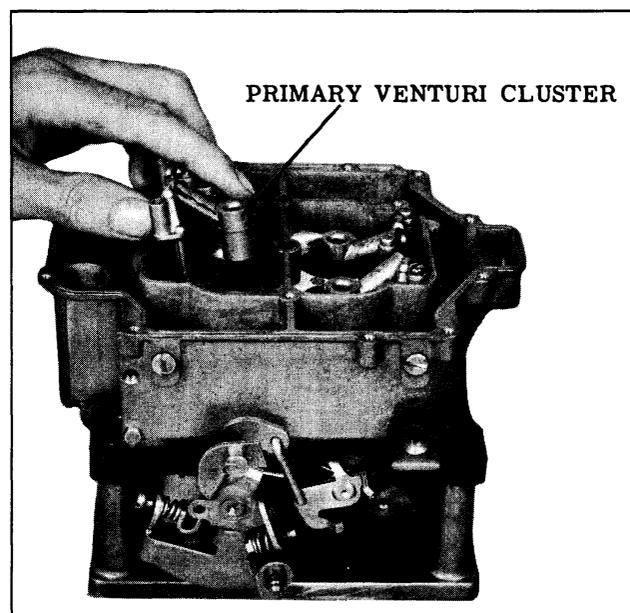

Fig. 8-95 Primary Venturi Cluster
1. Remove the three attaching screws and lockwashers from venturi cluster on the primary side, and carefully remove cluster and gasket. (See Fig. 8-95)